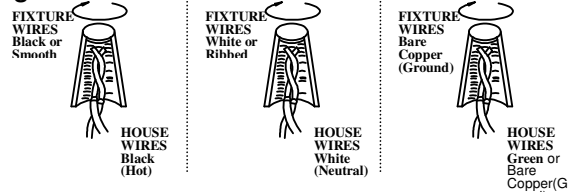

Fig. 3
6. Place the fixture over the mounting screws (E), and secure with lock nuts (F).
7. To prevent moisture from entering the outlet box and causing a short, use clear caulking (i.e. Indoor/Outdoor silicone sealant) to outline the outside of fixture back plate where it meets the wall leaving a space at bottom to allow moisture a means to escape. (Fig. 3)